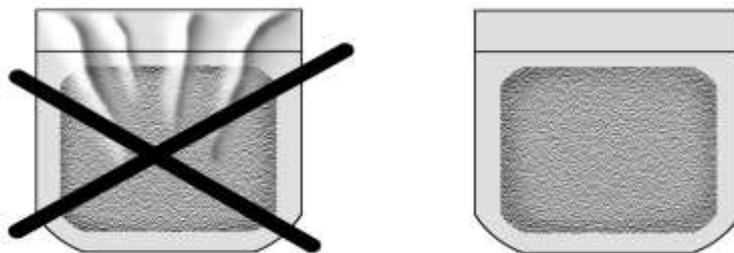

Fig.2
-There should be no bag folds on the bar to avoid subsequent loss of sealing (Fig.2).